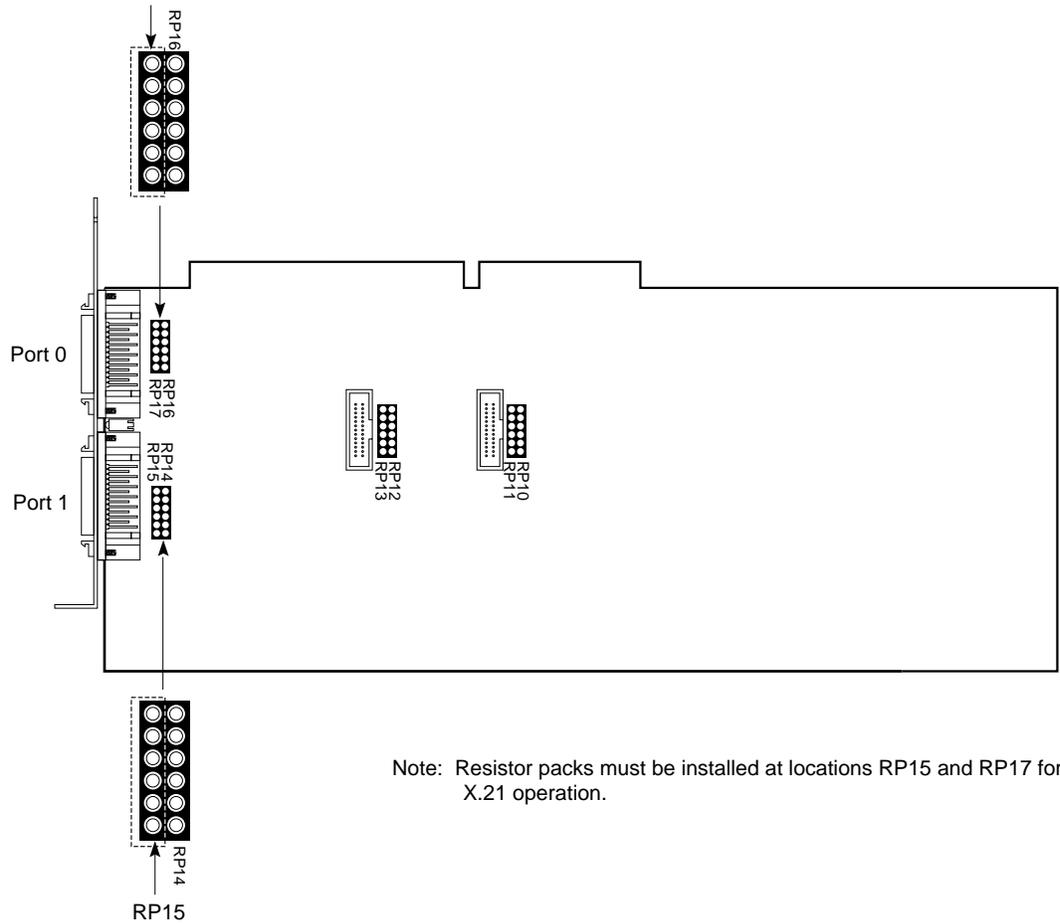

Figure 1-3 Resistor Pack Placement for X.21 ISA Sync Board Configuration
X.21 Resistor packs (RP15 and RP17) See Figure 1-3.	These resistor packs install only on ISA boards with X.21 connections. CAUTION: If these resistor packs are present in a non-X.21 board, remove them before installation. Board damage can result if you install a non-X.21 board together with the resistor pack.
Caution: If you have a non-X.21 board, ensure that resistor packs are not present at locations RP15 and RP17; see Figure 1-3 as required.